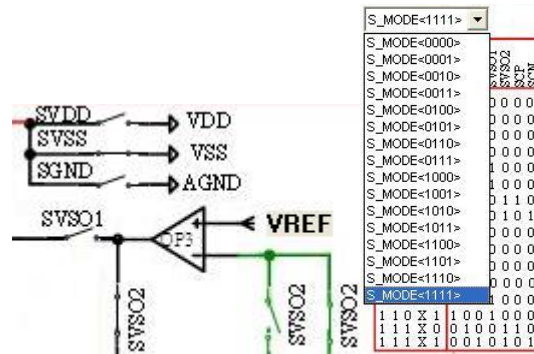

Figure 61
- (1) Click the specified network name with mouse left key, users can select to that network
- (2) Click the specified network switch with mouse left key, users can select to that network
- (3) Figure 61 will show up by clicking mouse left key, and then users can select the switch network